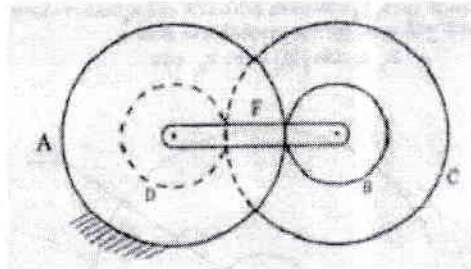

Fig. 4.5
5. An Epicyclic gear train is constructed as shown in fig 4.5. A fixed annular wheel A & a smaller concentric wheel B are connected by a compound wheel A_1-B_1 , A_1 gearing with A. B_1 gearing with B. The compound wheel revolves on a stud which is carried around an arm which revolves about the axis A & B. A has 130 teeth, $B_1=80$ teeth, pitch of A & A_1 being twice that of pitch of B & B_1 . How many revolutions B will make for one revolution of the arm. (solve it by algebraic method)